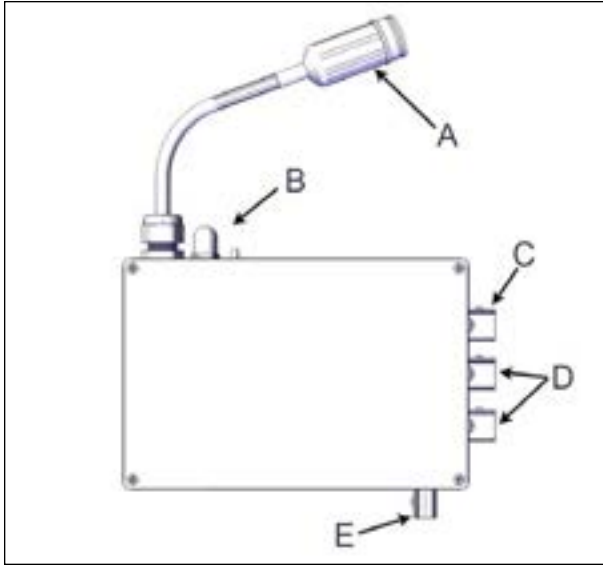

FIGURE 96: BATTERY/SOLAR PANEL CONTROL BOX
1. Locate the control box housing and control box, see Figure 95 and Figure 96.
3. Unpack the key switch and plug the harness into the control box (item C, Figure 96).
4. Unpack the optional solar panel kit from the boxes and connect the solar panel harness (item E, Figure 96).